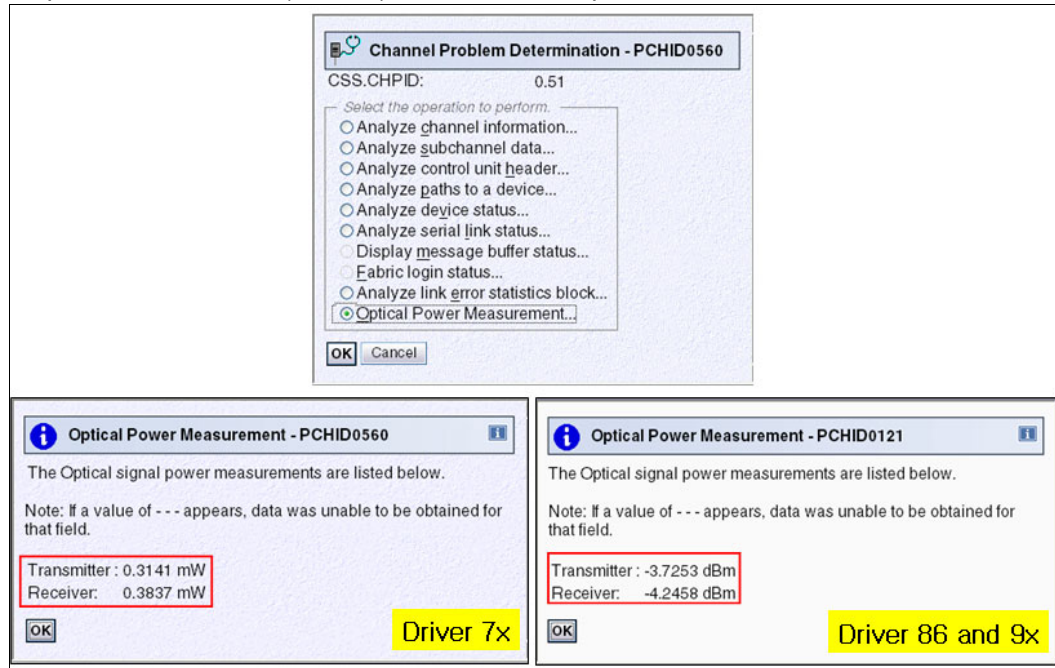

Figure E-18 Optical Power Measurement panel at Driver 7x,86,and 93
4. The Optical Power Measurement panel at z10 with Driver 7x and at z196 and z114 with Driver 86 or Driver 93 are shown in Figure E-18. The optical signal power value is presented with mW (milliwatt) at z10 while it is presented with dBm at z196 and z114.